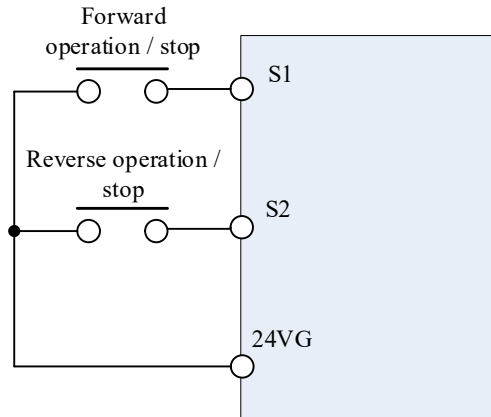

Figure 4.3.1 Example of 2-wire wiring
- 2-wire control is as shown in Figure 4.3.1; if S1 and S2 are both ON simultaneously for more than 500 milliseconds, the warning “EF9 (flashing) FWD-REV error” will pop up and the inverter will stop. After the situation is released, the inverter will resume normal operation.